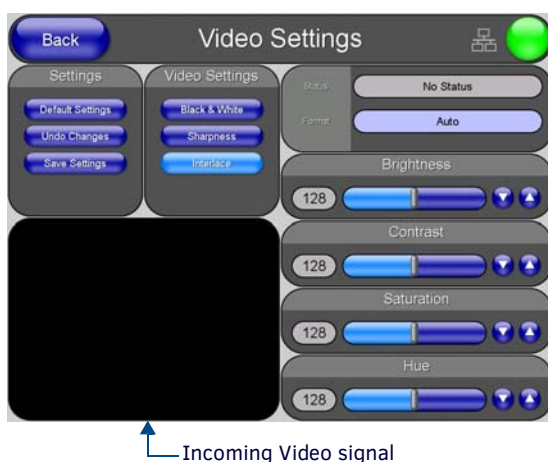

FIG. 138 Example of the current display
- Refer to *Step 2: Configuring the MAX-CSE for communication* section on page 134. The MAX-CSE is available from either the front LCD (FIG. 138) or from the IP Settings page of the UI.